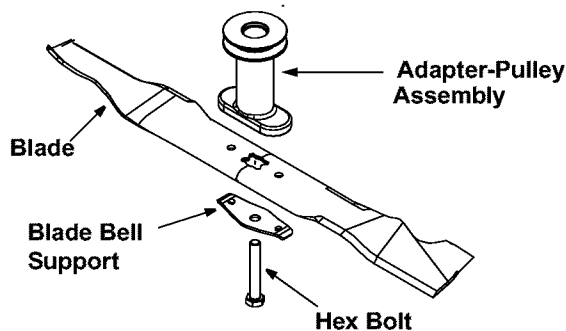

Figure 12
3. Remove the hex bolt which holds the blade adapter-pulley assembly to the engine crankshaft. See Figure 12. Remove the pulley assembly and the bell support from the crankshaft.